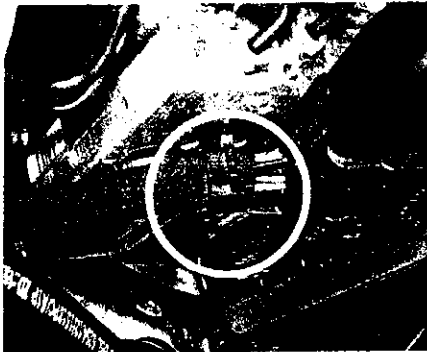

Figure 12: Affixing the SBC wiring harness to the cap of the SBC connector housing
15. Affix the SBC wiring harness **without** the ground wiring harness lines to the SBC connector housing cap using a new cable tie (see Figure 12).